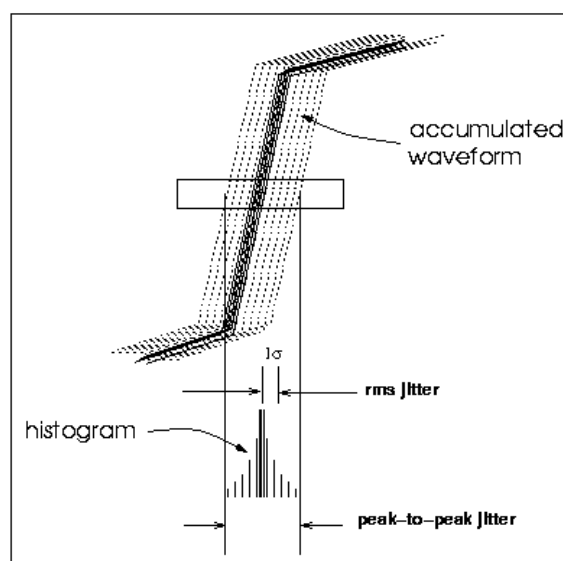

Fig. 7 Jitter Histogram
- **Peak-to-Peak value and Rms value:**As the **Fig7.** shows, a histogram of FOUT rising edge variation could be resulted from any kind of jitter measurement. The peak-to-peak value is meant by the difference of the max. and min. of the histogram. The rms value is the 1-sigma (standard deviation) value.